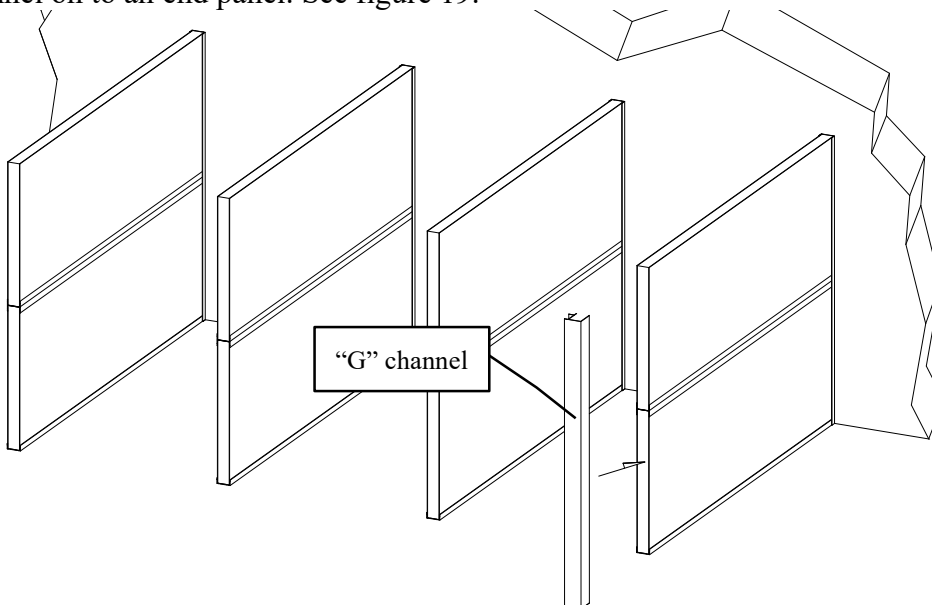

Figure 19
3. Systems that do not attach to end building walls use a “G” channel at each end wall. Place a “G” channel on to an end panel. See figure 19.